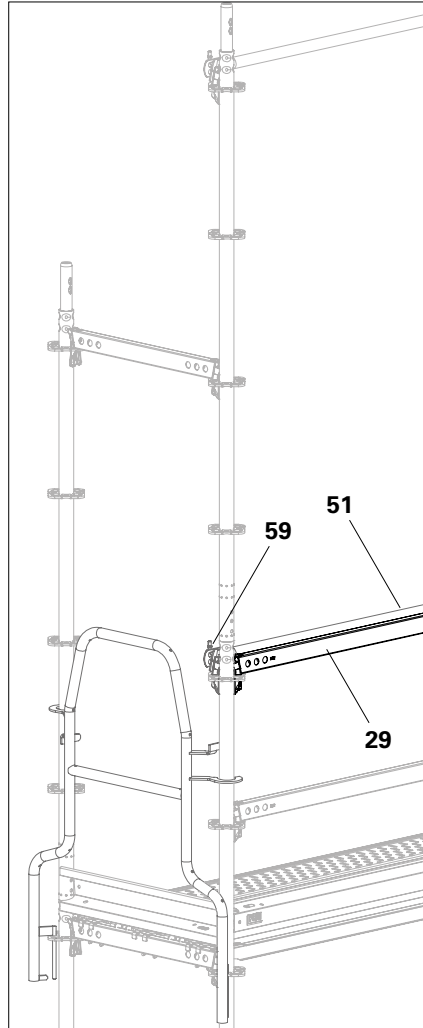

Fig. A3.11a
1. Installation of the End Guardrail in Advance UPA-2 (52) for the next level takes place from a safe position, see previous section.
2. Fit a Horizontal Ledger UH-2 (29) in the edge bay in place of the Guardrail Post EPG (51) and the Guardrail Holder EPW (59).
- The rosette's ledger-to-ledger coupler is free for horizontal ledgers (29).
3. Fit two Horizontal Ledgers UH-2 (27) in addition to End Guardrail UPA-2. (Fig. A3.11a+ A3.11b)